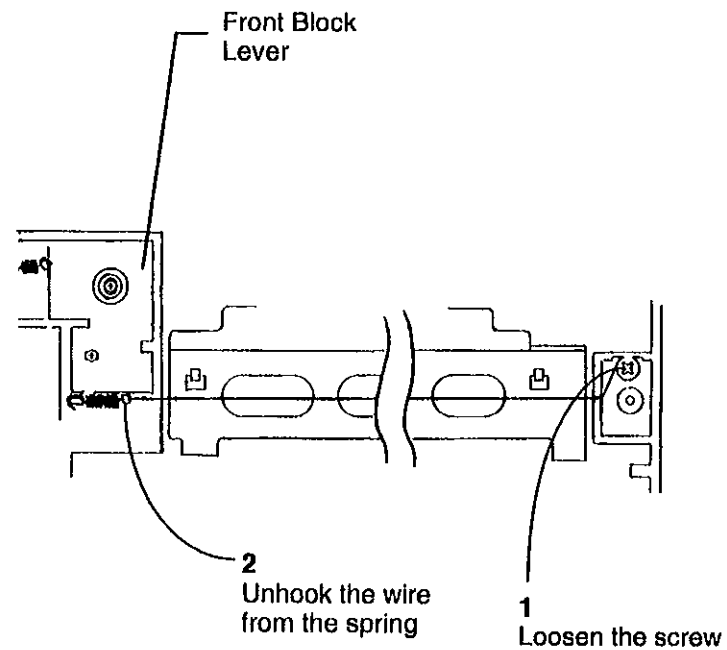

Figure 1. Removing the Transfer Corotron Wire
- 2 (Figure 1) Remove the corotron wire